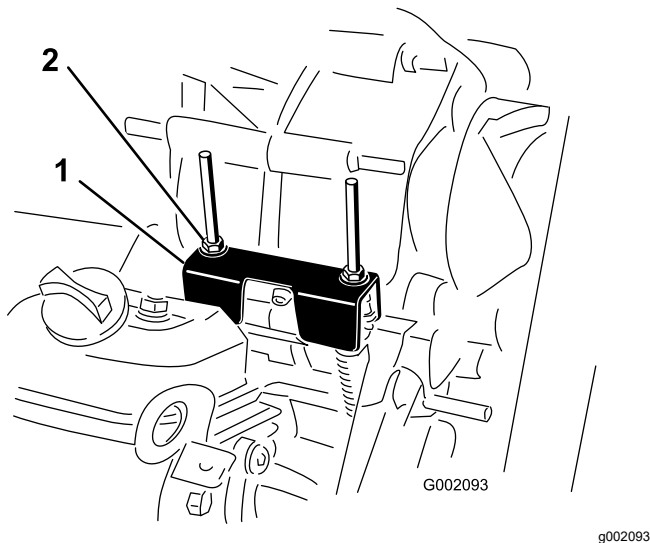

Figure 48
When performing routine maintenance and/or engine diagnostics, the transaxle must be shifted into NEUTRAL (Figure 48). The machine has a NEUTRAL position on the shift lever, which controls the neutral in the transaxle. Perform the following steps to ensure that the neutral shift lever operates the transaxle neutral correctly:
- Ensure that the neutral bracket is in the NEUTRAL position (level to the cable mounting bracket located below the shift bracket) by turning the driven clutch (Figure 48).
- Rotate 1 of the locknuts (Figure 48) to achieve a 0.762 to 1.524 mm (0.030 to 0.060 inch) gap between the bottom of the nut/washer and the neutral bracket.